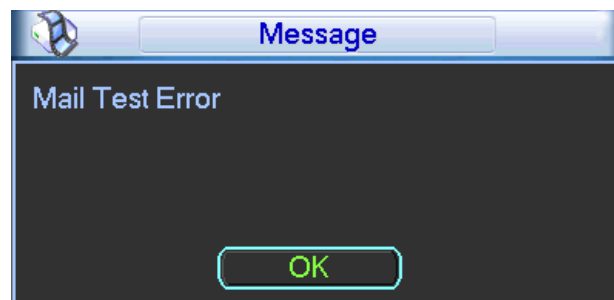

Figure 5-31
- Interval: Please check the above box to enable this function and then set the corresponding interval. System can send out the email regularly as you set here. Click the Test button, you can see the corresponding dialogue box to see the email connection is OK or not. See Figure 5-31.